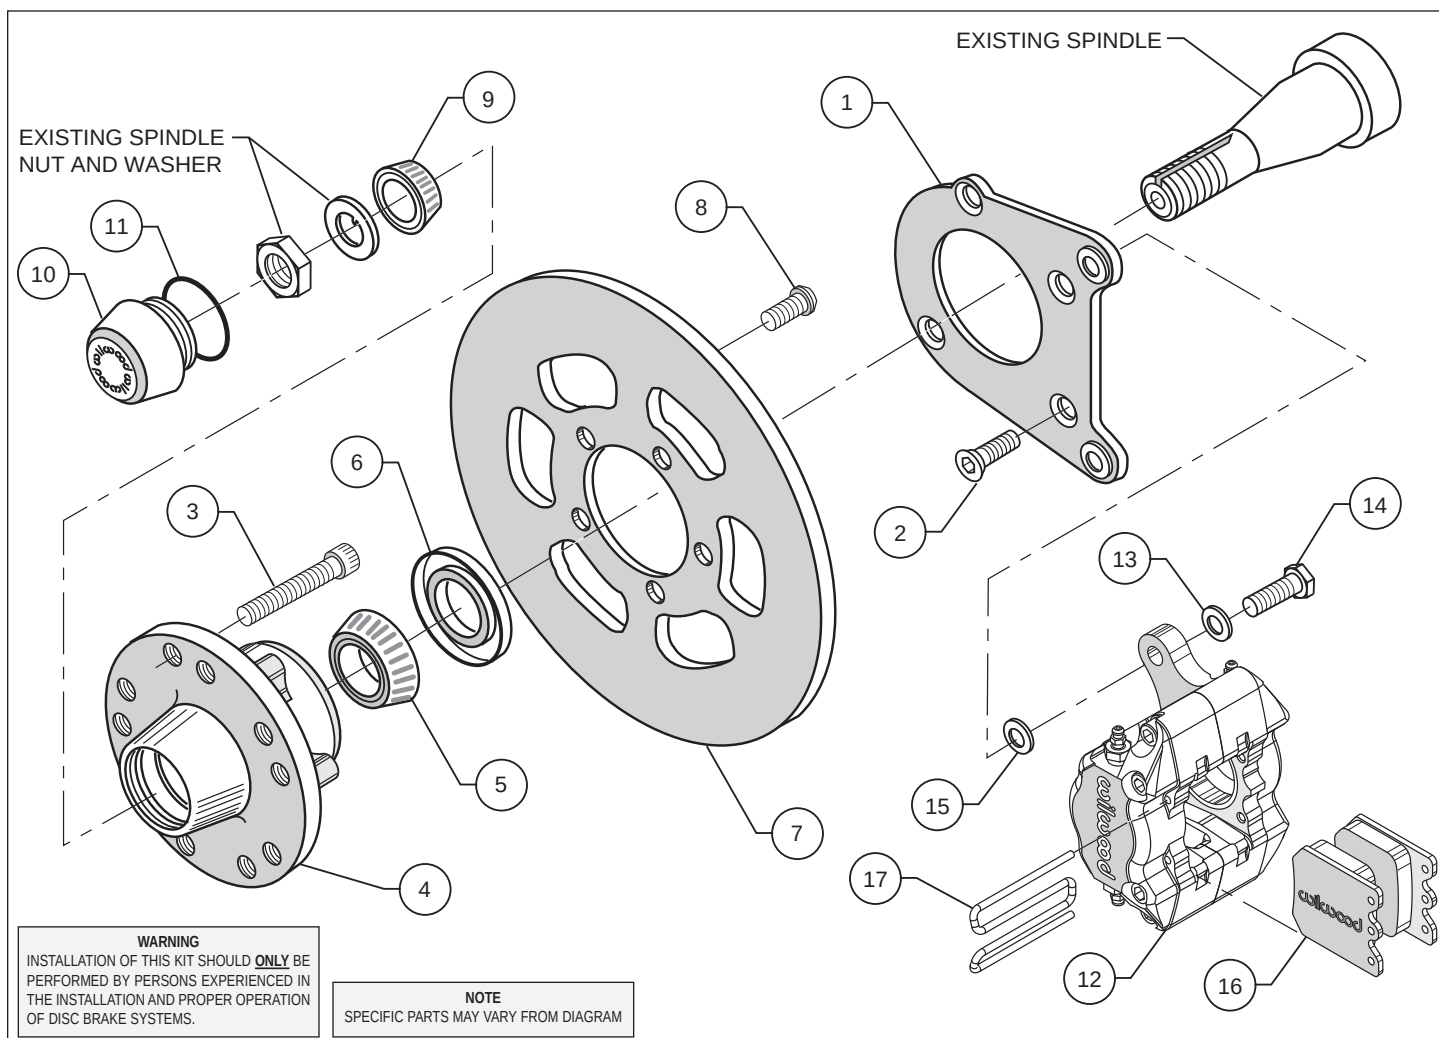

Figure 1. Typical Installation Configuration
- To accommodate several model years, multiple holes have been drilled in the caliper mounting bracket (1). Rotate the bracket until the two correct holes that align with the mounting holes in the face of the spindle are located. Apply red *Loctite*® 271 to bolt threads (2) before assembly of the caliper mounting bracket (1). Mount bracket (1) to dust face plate of spindle using bolts (2). Torque bolts (2) to 22 ft-lb. **NOTE:** Be sure the heads of the caliper bracket (1) insert nuts are facing outward toward the wheel.
- Install wheel studs (3) into the hub (4). Torque to 77 ft-lb. **NOTE:** There are two five lug patterns in the hub (5 x 4.50 and 5 x 4.75). Make sure of the correct hole pattern for the correct wheel application before installing studs into hub.
- Pack the large inner bearing cone (5) with high temperature disc brake bearing grease (available from your local auto parts store) and install into the backside of the hub (4).
- Install the grease seal (6) by pressing into the backside of the hub (4).
- Mount rotor (7) to hub (4) using bolts (8), as shown in Figure 1. Using an alternating sequence, apply red *Loctite*® 271 to the threads and torque to 55 ft-lb. **NOTE:** The counterbored side of the steel rotor (7) should face away from the hub (4).